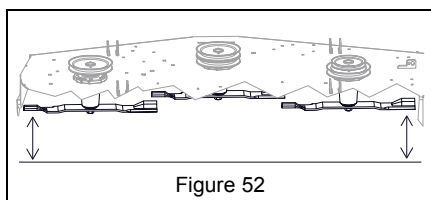

Figure 52
3. Engage parking brake. See Figure 52.